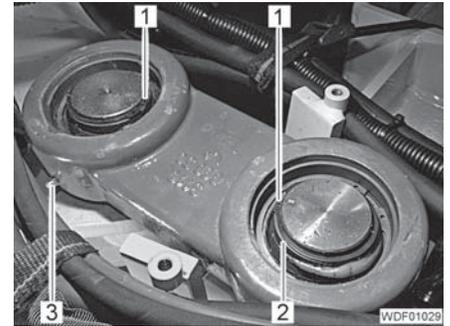

Fig. 289 Retaining mounts of the self-aligning bearing
- Remove the 2 locking rings (Fig. 289,1).
- Unscrew the grease nipple (Fig. 289,3).